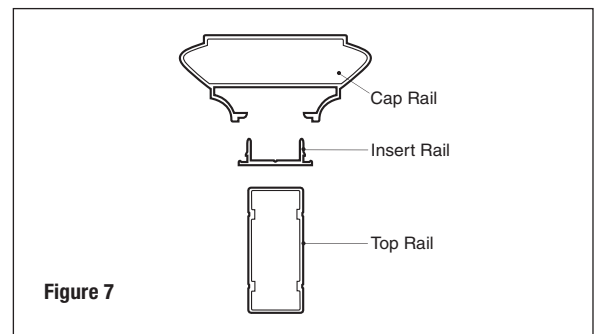

Figure 7
Step 13 (optional) Cut the cap rail and cap rail insert to length. (Note: the cap rail will be 1/2" longer than the top and bottom rails.) Center the cap rail insert on top of the top rail and pre-drill seven 1/8" pilot holes. Attach the cap rail insert to the top rail with seven 1/2" long screws. Apply exterior-grade metal construction adhesive to the mating edges of the insert rail. Position cap rail over the insert rail (**Figure 7**). Install by pressing down, starting from one end and working to the other until the cap rail snaps into place. Gently tap with a rubber mallet if needed.